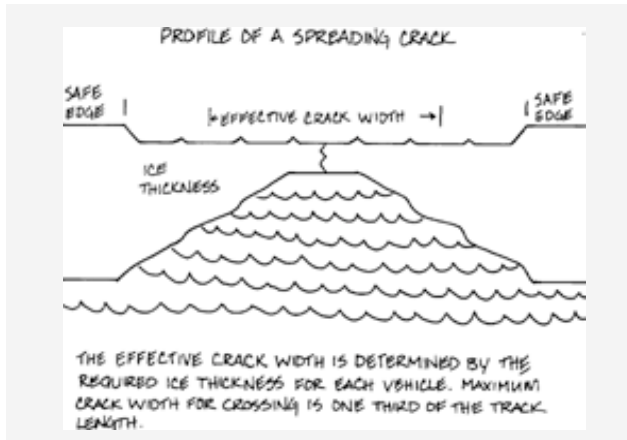

Figure 17-2: Spreading Crack.
- **Spreading Cracks** form as forces acting on the ice sheet cause the ice to crack and spread apart over time. These cracks tend to form slowly and can stay active for quite some time. The center of actively spreading cracks may be open water or thin ice. The safe edges of these cracks are difficult to judge without getting out of your vehicle and profiling the crack. See figure 17-2.